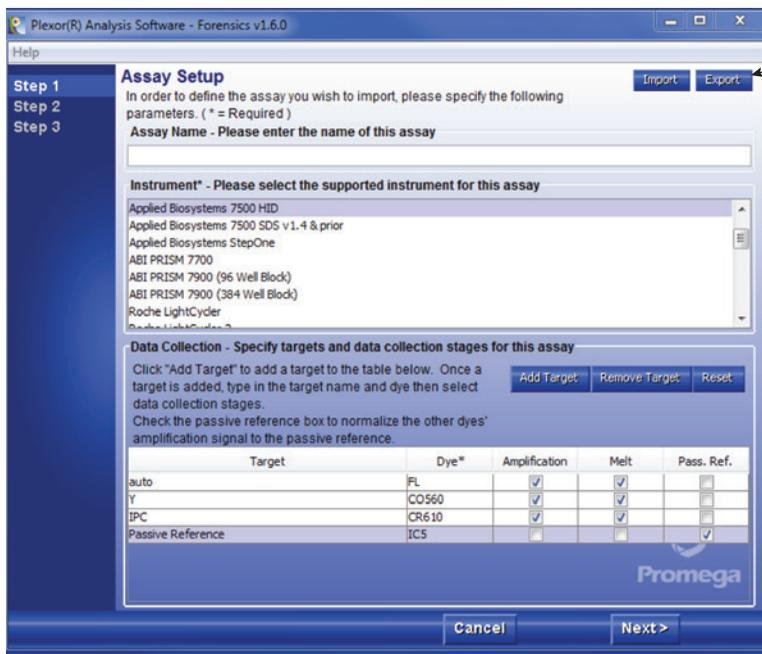

Figure 52. The Assay Setup screen.
3. Choose instrument, targets, dyes and data collection stages (Step 1). See Figure 52.